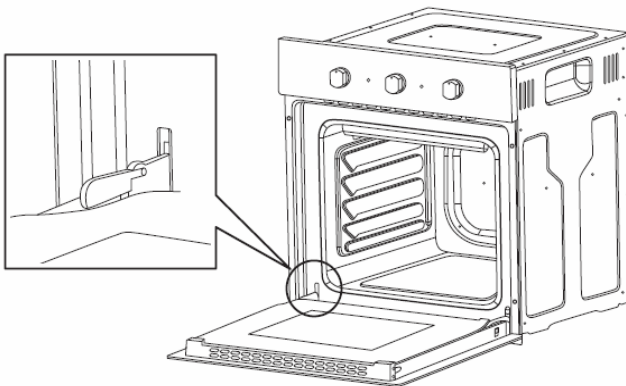

FIG.1
### Removing the door from the oven (Fig.1)
- Remember to turn the two moving links "B" used to engage the two hinges before closing the door.(Fig.1)